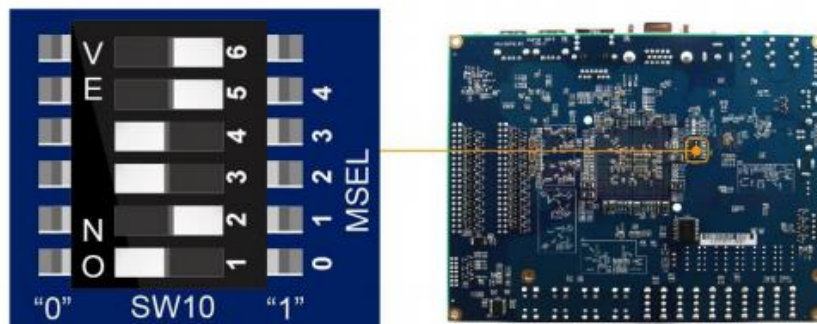

Figure 7: SW10 Switch Configuration
- d) Make sure the SW10 DIP switch (Figure 7) is set to MSEL[4:0] = 01010 [1]